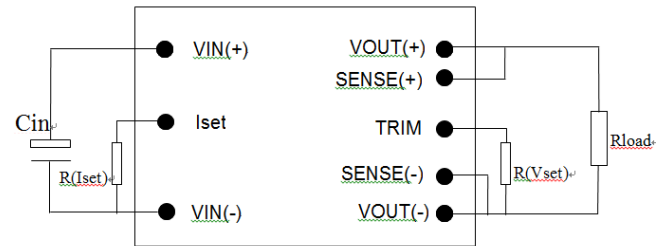

Figure 15
The output voltage can be programmed to any voltage between 0 V dc and Vmax by connecting one resistor between the Vset(Trim) pin (9) and Sense- (8); See Figure 15. For a desired output voltage, the value of the resistor should be:
The maximum output current (effectively the current limit) can be reduced to any value between 0 and Imax by connecting one resistor between the Iset pin (4) and Sense- (8); see Figure 15. The value of the resistor should be: